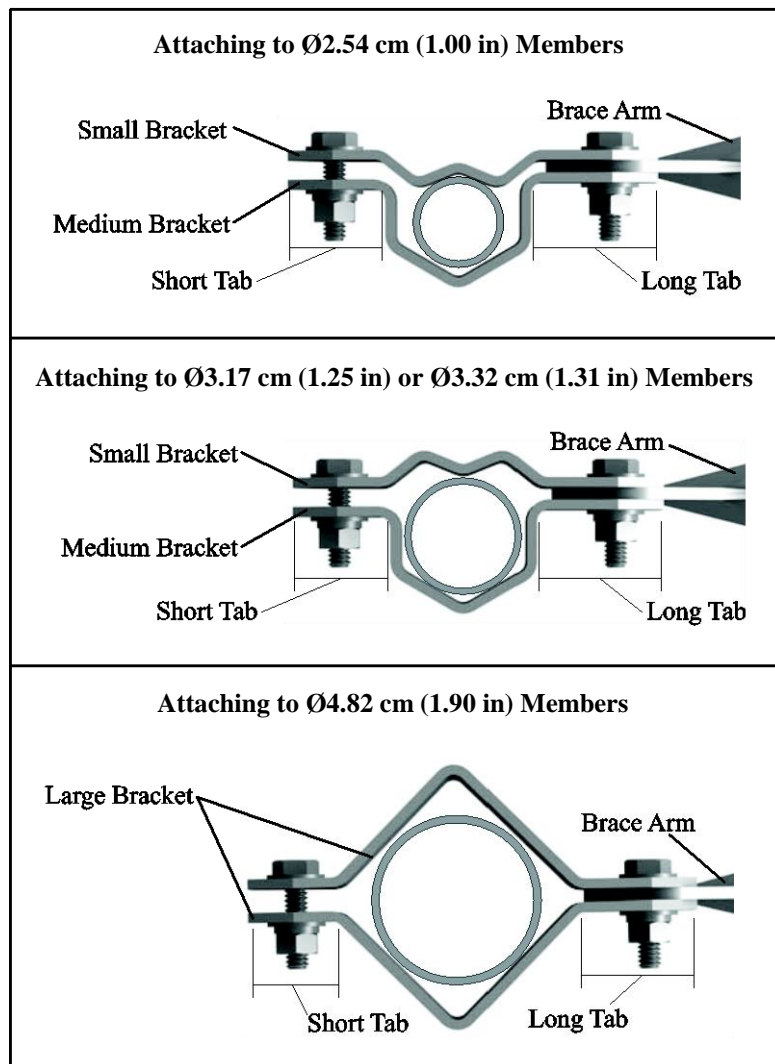

Figure 6-18. Bracket selection
1. Consult Figure 6-18 and Table 6-1 to determine which brackets are needed at either end of the brace to attach it to the crossarm and tripod mast or tower. The figure also indicates what orientation is needed when the small bracket is used.